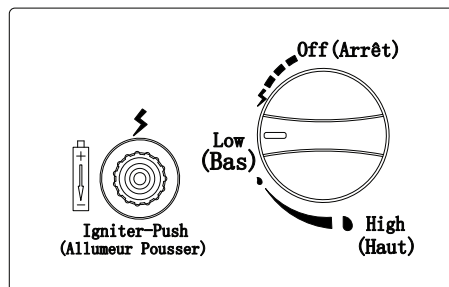

Figure 2
5. Press the control knob, turn counter-clockwise to “Low” position, press and hold. When the burner lights, release the electronic igniter button (Figure 2).